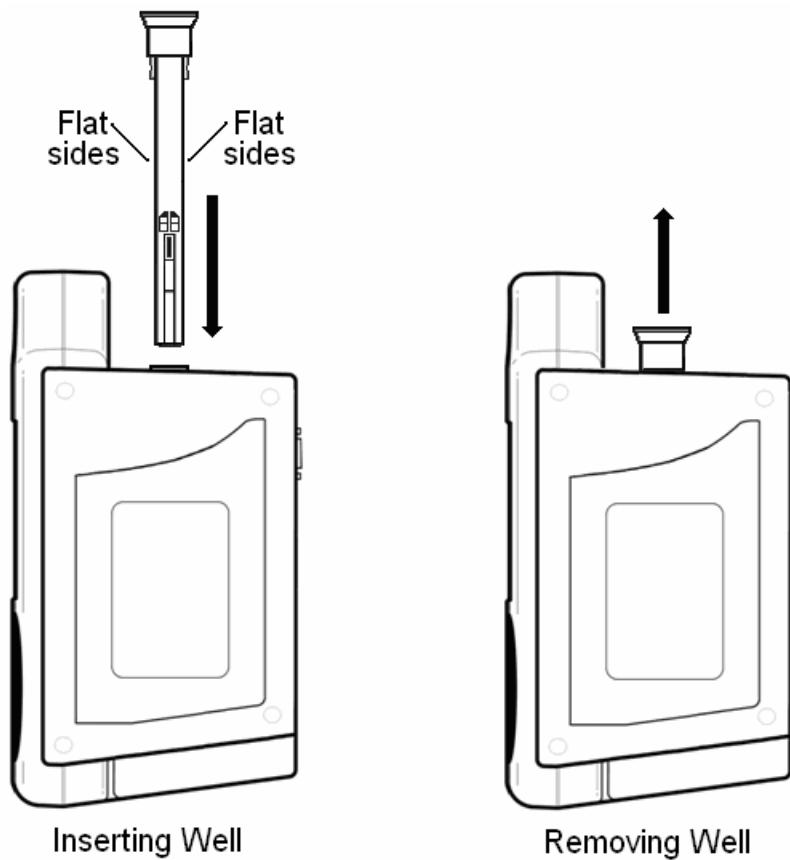

Figure 12: Inserting & Removing the Probe Well
- 1) To insert – Position the Probe Well with the flat sides toward the front and rear of the monitor. Slide the Probe Well into the opening at the top of the Temperature module. Push the Probe well all the way down the opening. An audible "click" should be heard when the Probe Well is completely placed into its holder. Refer to Figure 12.
- 2) To remove – Grasp the Probe Well by the flared ring. Gentle pull the Probe Well straight up and continue until the Probe Well is completely out of the opening. Refer to Figure 12.